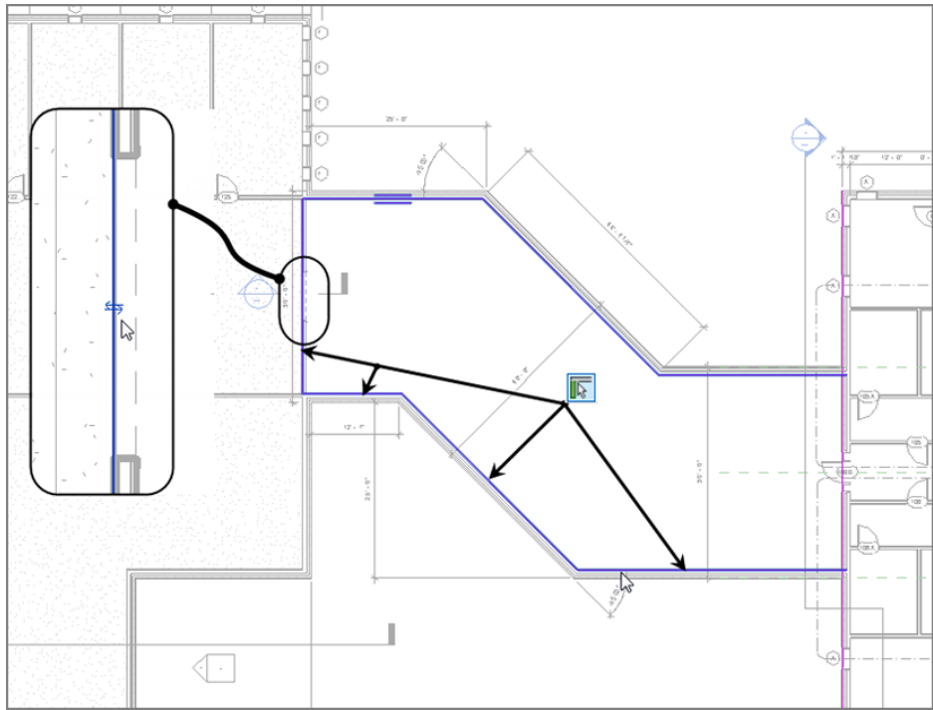

FIGURE 6.15: Adding the slab edge to the left side of the west corridor wall
10. Pick the west wall of the corridor. This time you want to be sure the magenta line is to the left of the wall. This will ensure that the two slabs meet. If not, you may need to move the line manually (see Figure 6.15).